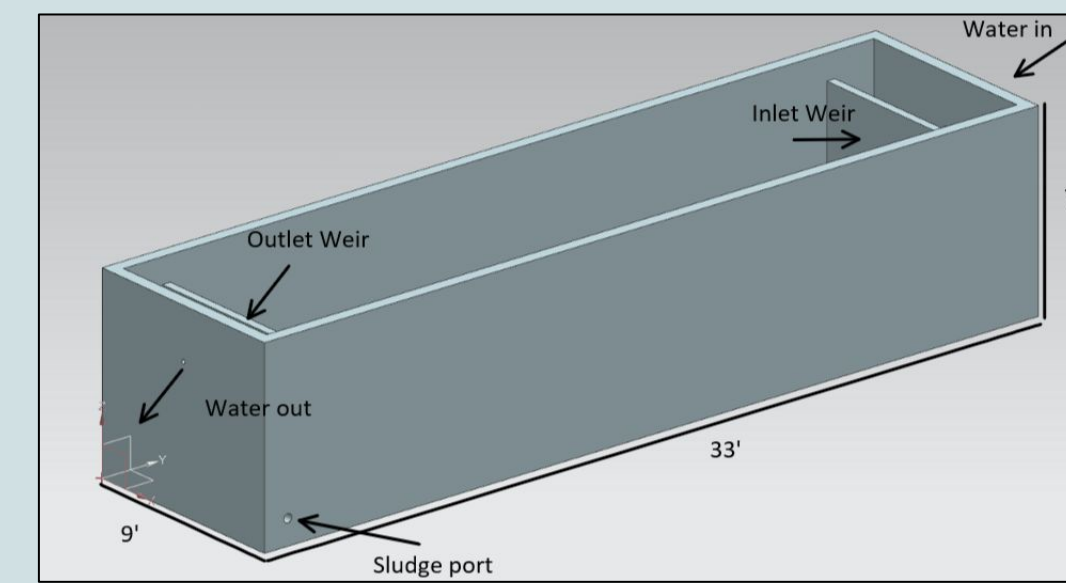

Figure 8: Sedimentation Tank
- Removes large suspended particles by gravity settling (Fig. 8)